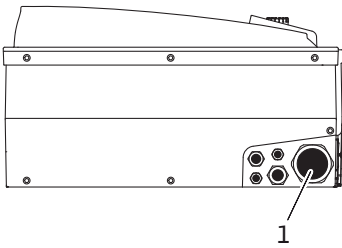

Fig. 25: Threaded cable connection M25/M40
- The power cable must be passed through the threaded cable connection M25/M40 (Fig. 25, no. 1).